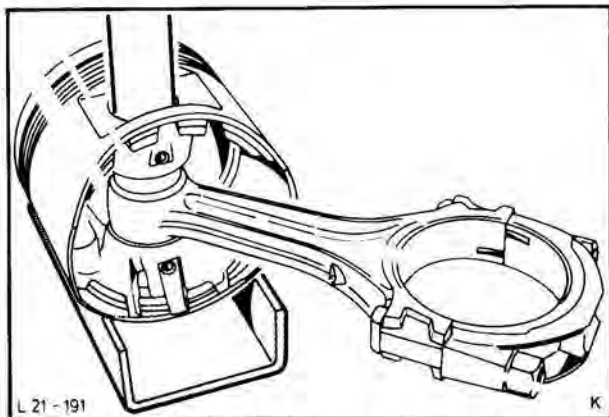

Fig. 219. Drive out piston pin, using drift
1. Drive piston pin out of piston using a suitable drift, Fig. 219.